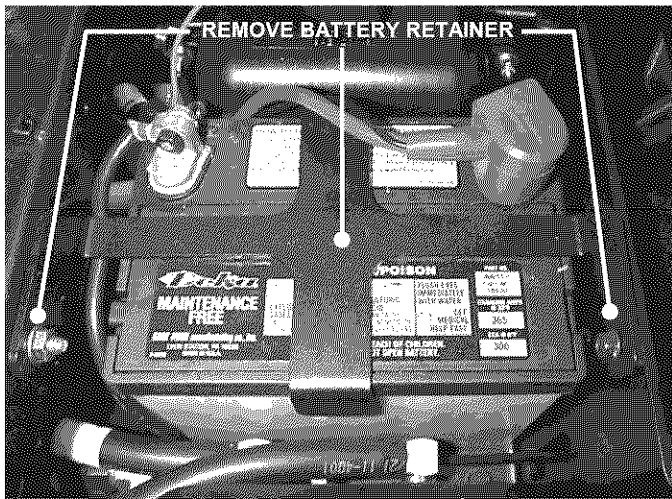

FIGURE 5.17
1. Remove battery retainer. See Figure 5.17.
3. Observe and note cable positions on battery. Disconnect cables from battery terminals, disconnecting BLACK (Negative) cable first and RED (Positive) last. Retain mounting bolts and nuts. See Figure 5.17.
3. Reinstall battery retainer and positive terminal cover. See Figure 5.17.